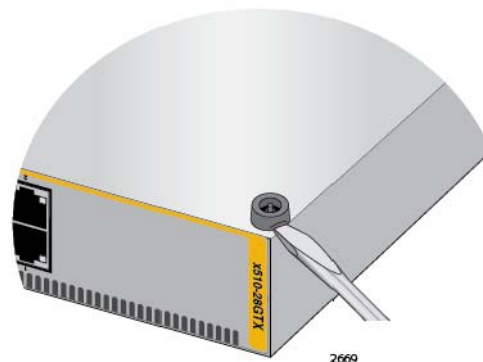

Figure 15. Removing the Rubber Feet
2. Using a flat-head screwdriver, pry the rubber feet from the bottom of the switch. Refer to Figure 15.